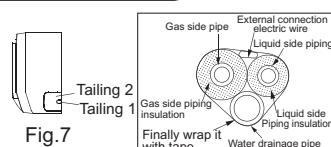

Fig.7
1. When routing the piping and wiring from the left or right side of indoor unit, cut off the tailings from the chassis if necessary (As shown in Fig.7)